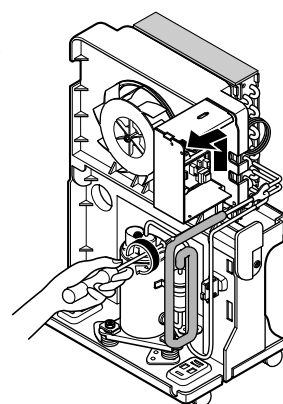

Figure 13
6. Remove 1 screw that fasten control box and unhook control box from hook on the shroud. (See Figure 13)